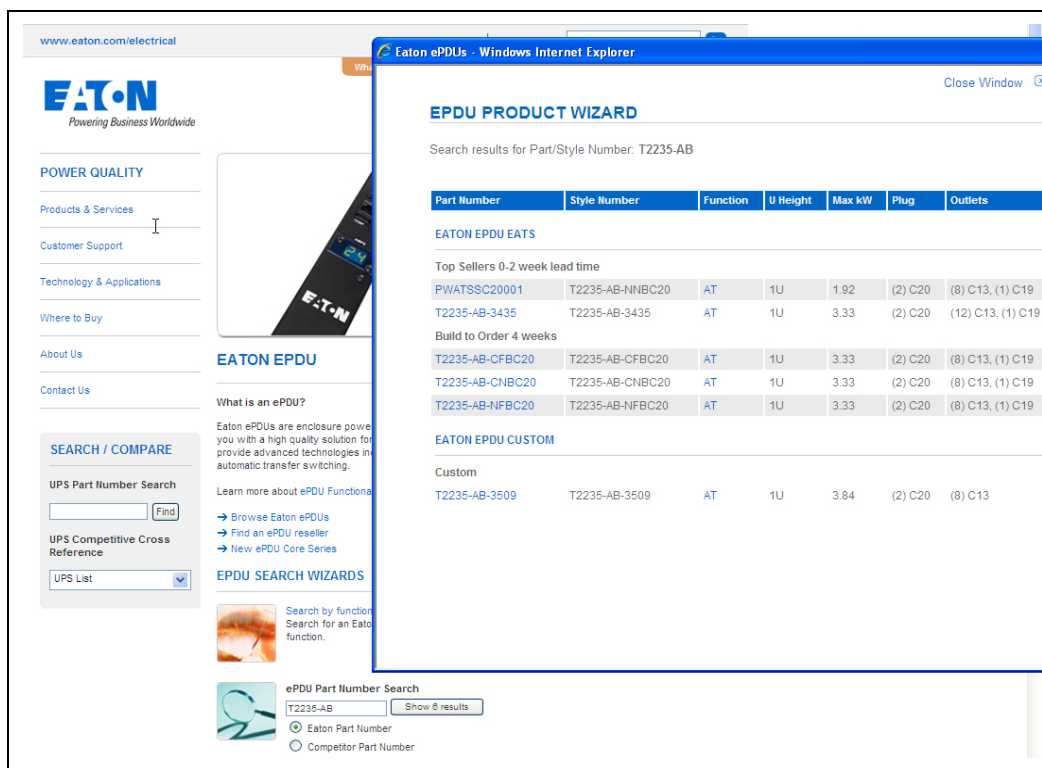

Figure 10. Eaton ePDU Product Part Number Search Wizard
To use the EPDU PRODUCT WIZARD to view T2235 Series eATS ePDU technical specifications online (see Figure 10):
3. For an Eaton ePDU part number search, the EPDU PRODUCT WIZARD window displays the search results. Click the blue highlighted part number link in the first column to view a specific online technical specification sheet. Otherwise, click **Close Window** to exit (see Figure 10).